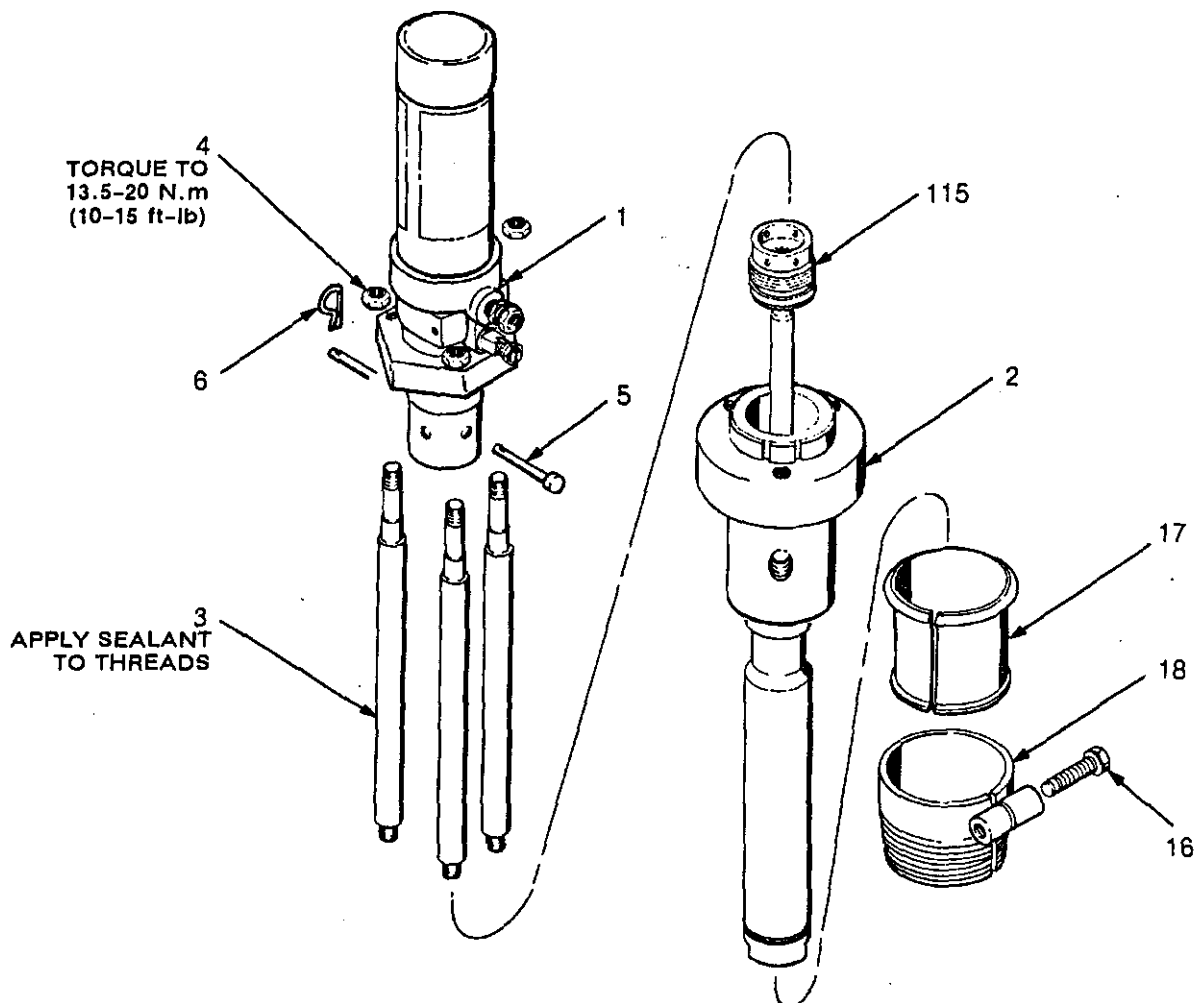

Fig. 4
## DISPLACEMENT PUMP SERVICE (See Figs. 4 & 5)
3. Disconnect the air and fluid hoses. Unscrew the bung adapter (18) and pump from the mounting. Loosen the screw (16) and remove the bung adapter from the pump.
4. Remove the three locknuts (4) and unscrew the tie rods (3). See Fig. 4.
5. Remove the spring clip (6) and pin (5) holding the coupling (115) in the air motor (1). Unscrew the coupling from the air motor. Pull the air motor (1) off the displacement pump (2).
12. Install the ball (110) in the piston stud (108). Press fit the ball stop pin (109) in the hole of the piston stud so it is flush with or below the stud's surface. Apply thread sealant to the displacement rod (107) threads and screw the piston stud (108) onto the rod. Torque to 20.3-27 N.m (15-20 ft-lb).
13. Install the piston packing (121\*) on the piston stud (108). Apply sealant to the threads of the piston stud (108) and screw the piston nut (111) onto the stud. Torque to 20.3-27 N.m (15-20 ft-lb).
14. Lubricate the o-ring (112) and install it in the outlet housing (113). Lubricate the threads of the cylinder (101) and screw it into the outlet housing. Torque to 34-40 N.m (25-30 ft-lb). Push the displacement rod (107) up into the pump cylinder from the bottom until it clears the packing nut (114).
15. Apply sealant to the threads of the displacement rod (107) and screw the coupling (115) onto the rod. Torque to 20.3-27 N.m (15-20 ft-lb).
16. Torque the packing nut (114) to 34-40 N.m (25-30 ft-lb).
17. Install the pin (106) in the ball guide (105). Insert the ball guide into the pump cylinder (101) so the pin (106) is toward the top of the pump.
18. Install the gasket (103\*) on the intake valve (102). Place the ball (104) on the seat of the intake valve, and screw the valve into the cylinder. Torque to 34-40 N.m (25-30 ft-lb).
19. Screw the coupling (115) into the air motor (1). Line up the holes and secure with the pin (5) and spring clip (6). See Fig. 4.
20. Apply sealant to the threads of the tie rods (3) and screw the rods into the outlet housing (113). Mount the air motor (1) on the tie rods (3). Screw the locknuts (4) onto the tie rods loosely.
21. Reinstall the bung adapter (18) on the pump. Lower the pump through its mounting and screw the pump and bung adapter into the mounting.
23. Run the pump slowly to check for binding of the tie rods. Adjust as necessary and torque the locknuts (4) to 13.5-20 N.m (10-15 ft-lb).